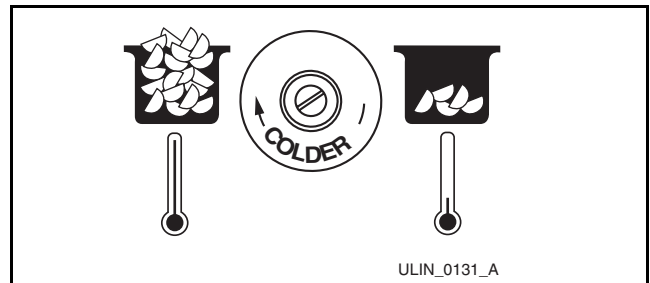

Figure 4
2. Turn the adjusting screw (Figure 4) using a flat tip screwdriver in a small increment clockwise for a COLDER setting (slower ice production) or counterclockwise for a WARMER setting (faster ice production).